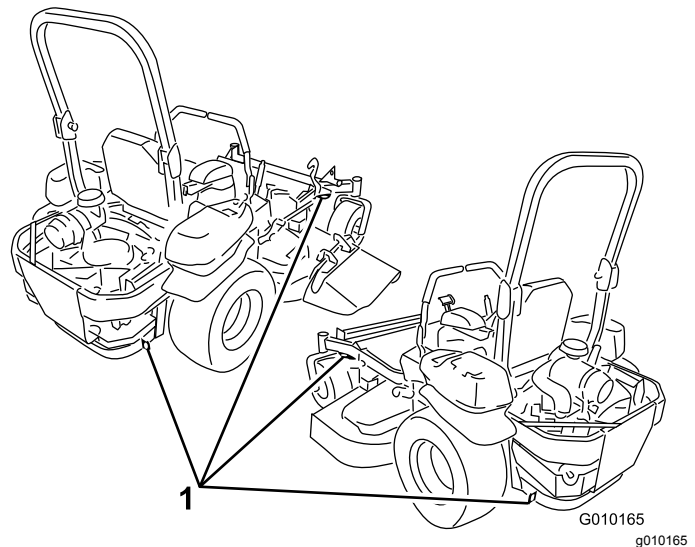

Figure 36
6. Tie down the machine near the front caster wheels and the rear bumper with straps, chains, cable, or ropes (Figure 36). Refer to local regulations for tie-down requirements.